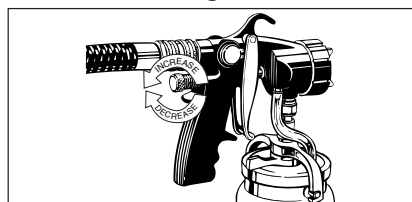

Figure 13 - Adjusting The Material Flow
- To adjust the material flow, turn the material control knob clockwise to decrease and counterclockwise to increase. (See Figure 13).